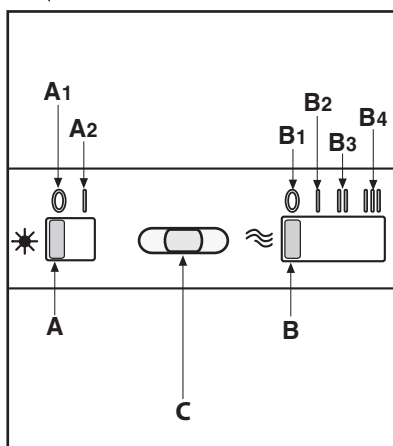

Fig.7
• Commands (Fig.7) slider the key symbols are explained below: